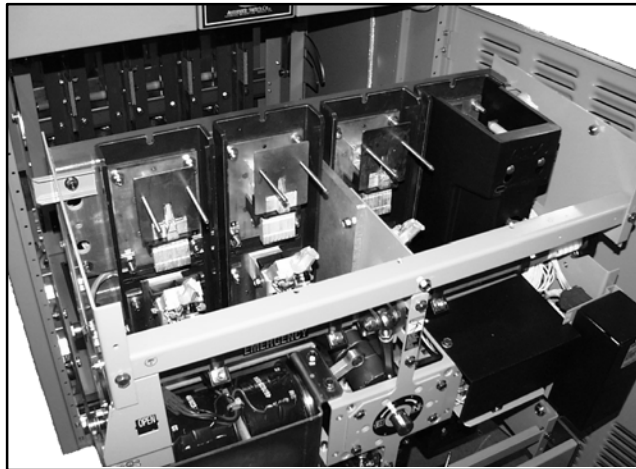

Figure 11-5 Arc Chutes Removed
4. Carefully remove the arc chutes. Use a 5/8 in. nutdriver to remove two long insulator nuts. Then carefully pull the arc chute outward (off the long threaded rods). Place the arc chutes in a safe place. See Figure 11-5.
4. Carefully remove the arc chutes. Use a 5/8 in. nutdriver to remove two long insulator nuts. Then carefully pull the arc chute outward (off the long threaded rods). Place the arc chute in a safe place to prevent breakage. See Figure 11-5.
10. Carefully reinstall the arc chutes. Carefully slide the arc chute (with the arc splitters toward the contacts and the recess for nuts outward) between the two long threaded rods. Reinstall the two long insulator nuts (round shoulder in) and use a 5/8 in. nutdriver to GENTLY tighten until snug. Do not overtighten these nuts. See Figure 11-4 and Figure 11-5.